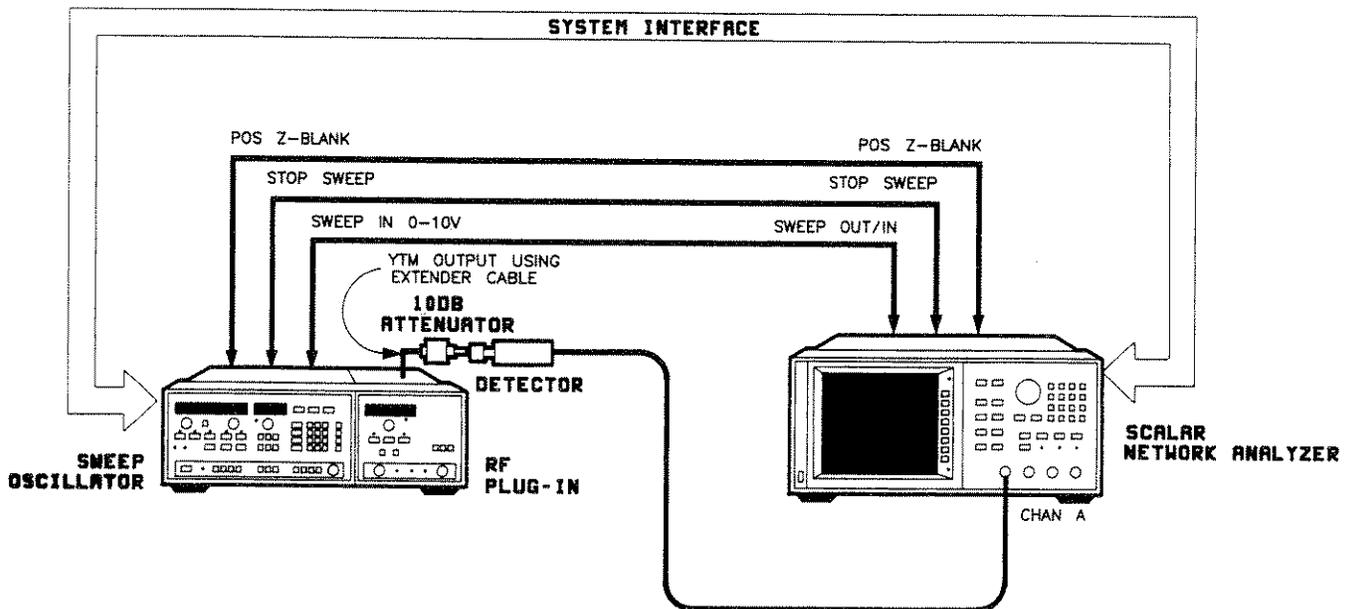

Figure 5-23. High Power SRD Bias Adjustment Test Setup
1. Connect the equipment as shown in figure 5-23 with the service cable connected to the output of the plug-in YTM and the plug-in A6 board on the extender board. The oscilloscope is not used in this part of the adjustment.